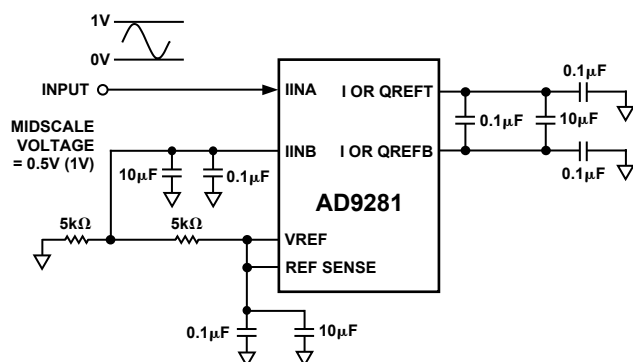

Figure 17. Example Configuration for 0 V–1 V Single-Ended Input Signal
**EXAMPLE:** For a single-ended input range from 0 V to 1 V applied to IINA, we would configure the converter for a 1 V reference (see Figure 17) and apply 0.5 V to IINB.